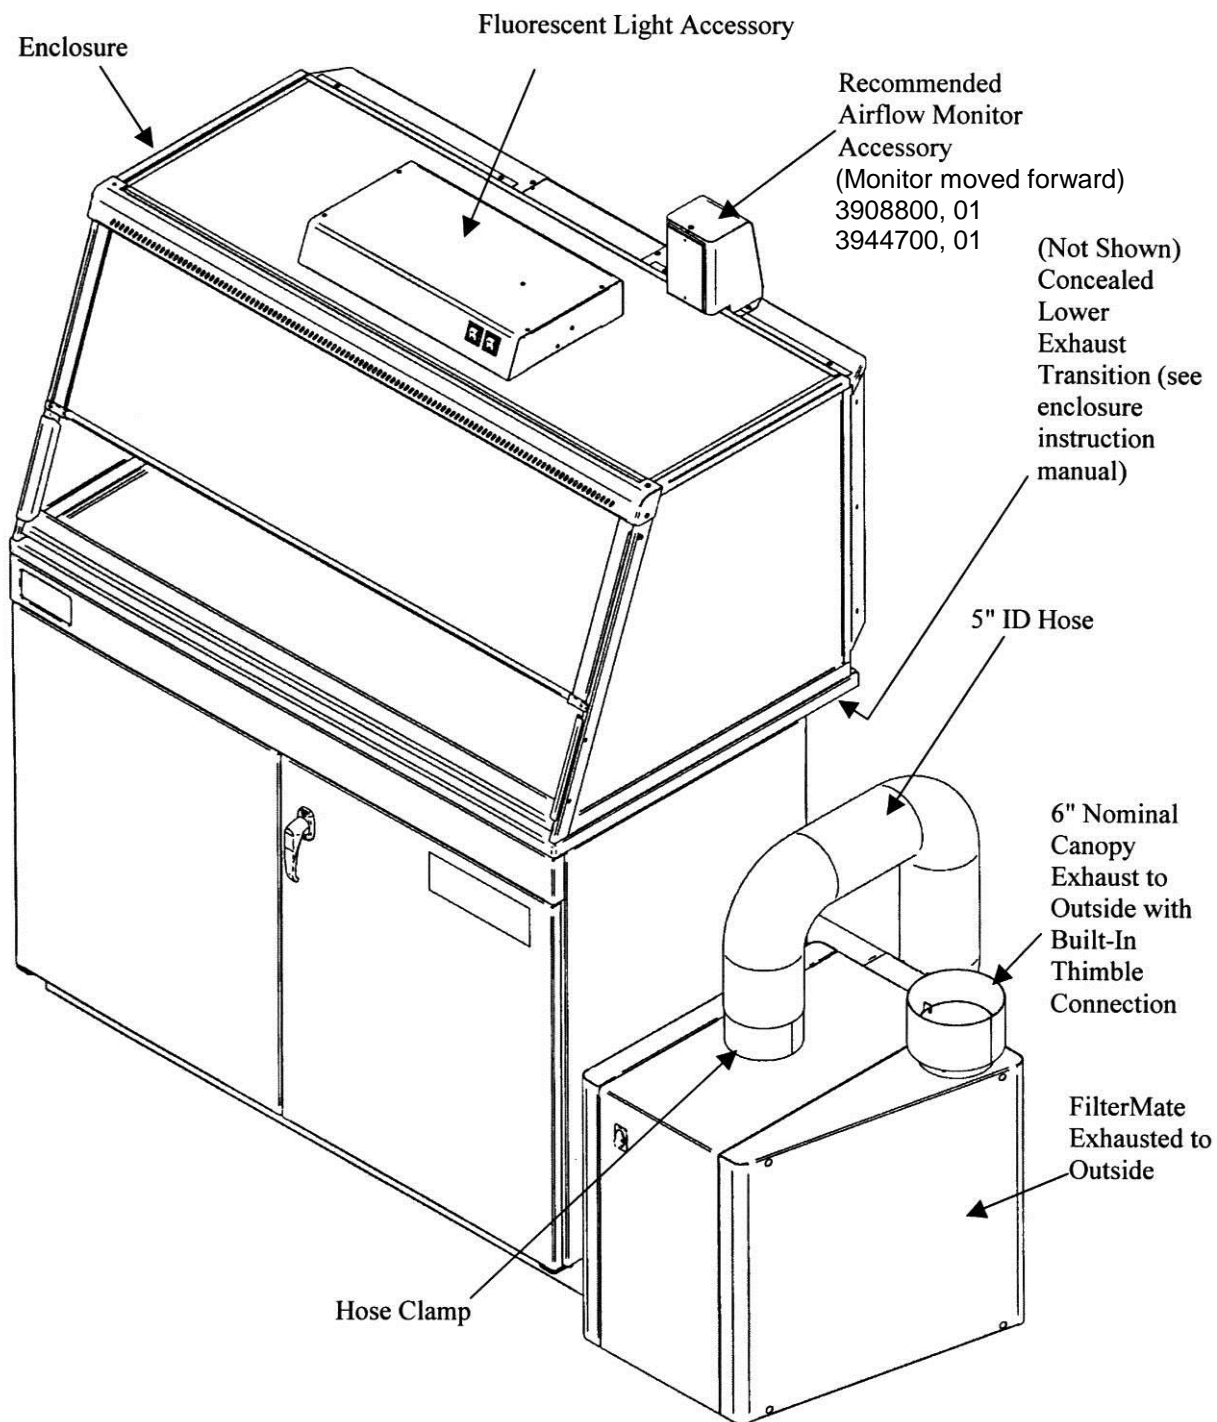

Figure 3-2
- Locate the FilterMate within approximately 3-feet (1 meter) of the enclosure. The FilterMate can be located on the bench, floor or shelf above the enclosure. Insert the transition (2" x 10" x 5" diameter hose) exhaust adapter into the exhaust of the enclosure. An alternate location is on the bottom for concealed exhaust. See XPert Balance Enclosure and Protector XVS Ventilation Station Instruction Manual. See Figure 3-2.
- The FilterMate should be positioned where it provides easy access to the blower switch. Refer to Figure 3-2 for concealed exhaust or outside exhaust ducting.